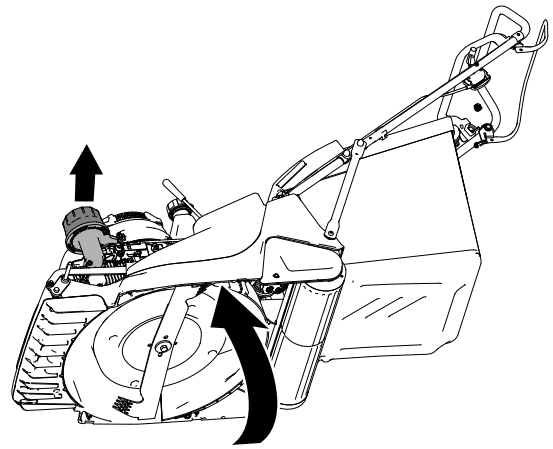

Figure 6
1. Tip the machine onto its side with the air filter or height-of-cut lever up (Figure 6).